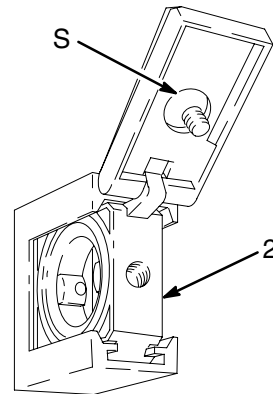

Fig. 1
To open a quick connector (2), loosen the captive screw (S) and open the connector. Slide the desired component into the connector, close, and tighten the screw. See Fig. 1.